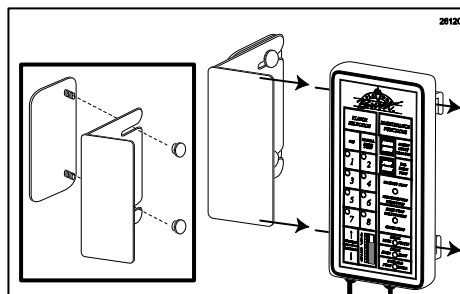

Figure 112
1. Slide the Keypad onto the main Bracket plate and assemble the two Bracket parts in the style that will best suit your freezer and daily operations. One example is given in the figure below. (See Figure 112.)